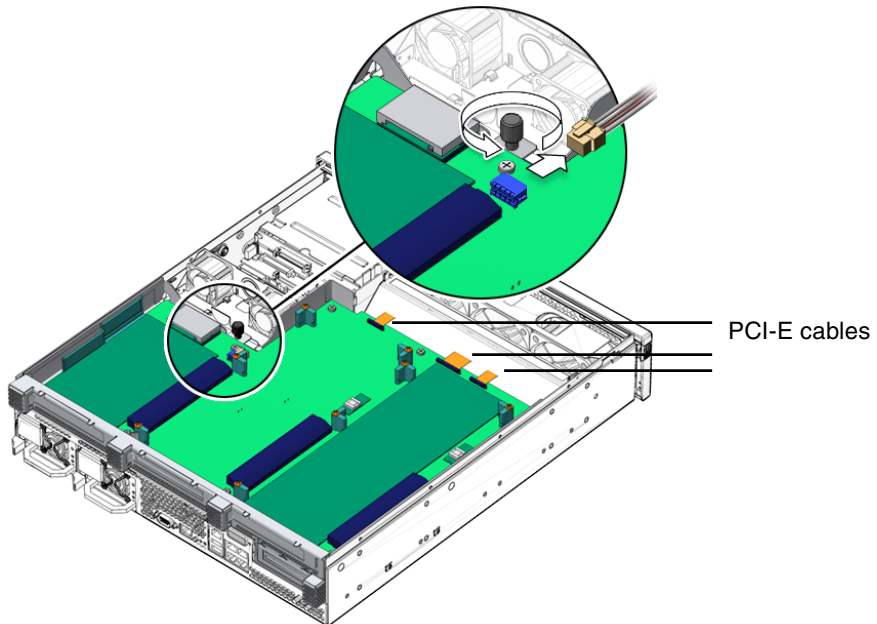

FIGURE 3-6 Disconnecting the PCI Tray Power Cable and Loosening the Thumbscrew
1. Disconnect the PCI tray cable at location J2 and loosen the thumbscrew adjacent to it (FIGURE 3-6). Also disconnect the PCI-E cables shown in FIGURE 3-6.